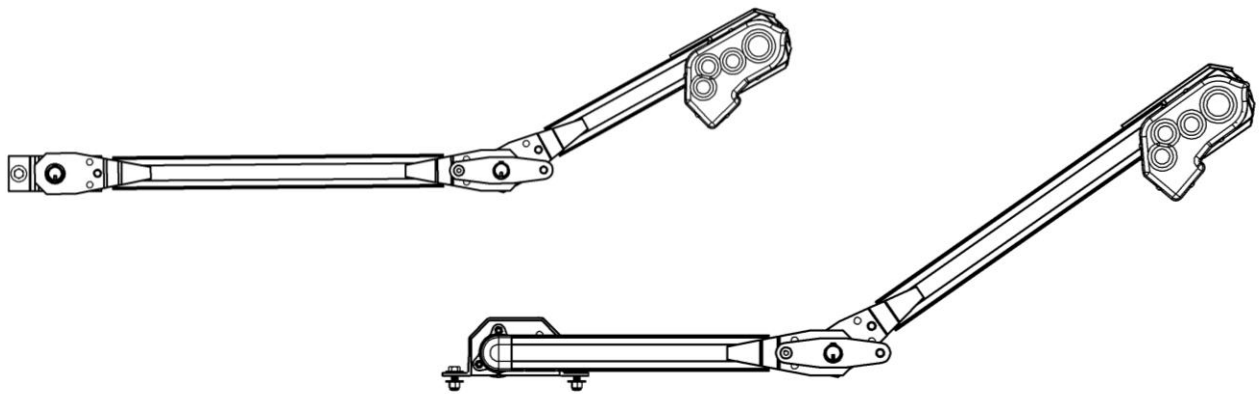
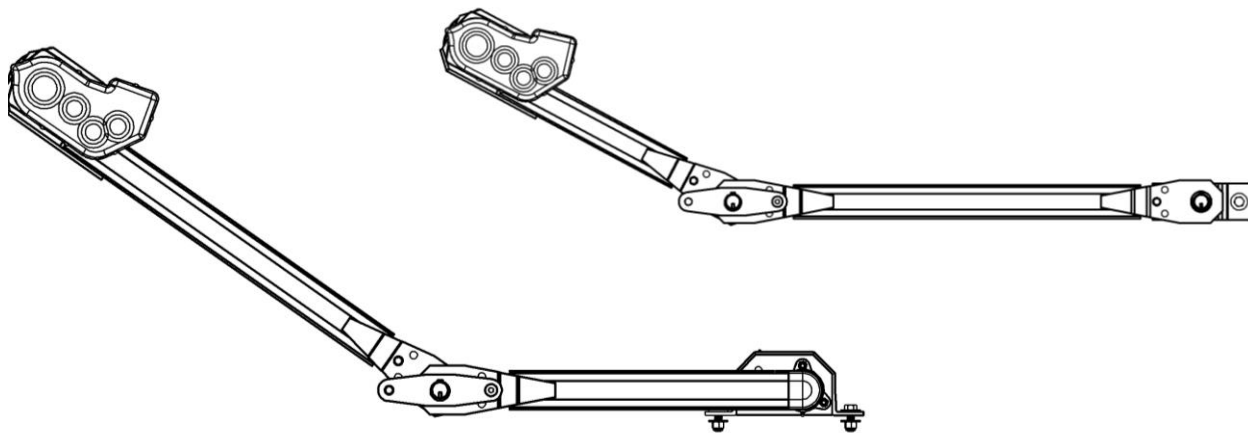

Figure 6
Figure 7
4. Slide the arm onto the pivot pin and setscrew it in place. Figure 6 shows what the arm looks like if you are looking at the front of the trailer and have a passenger stowing system, figure 7 shows what your arm looks like if you are looking at the front of the trailer and have a driver side stowing system.
5. Bolt the motor to the pivot arm as shown in figure 6 or 7 depending on your system.